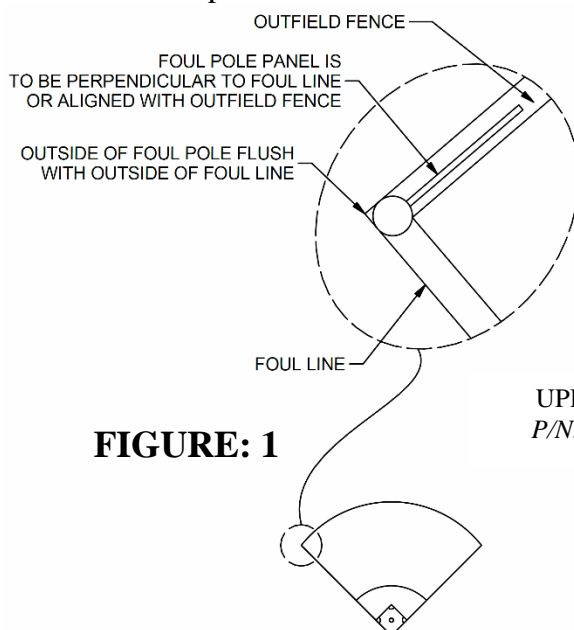

FIGURE: 1
1. Determine the proper location for the foul poles on the playing field, see figure 1.